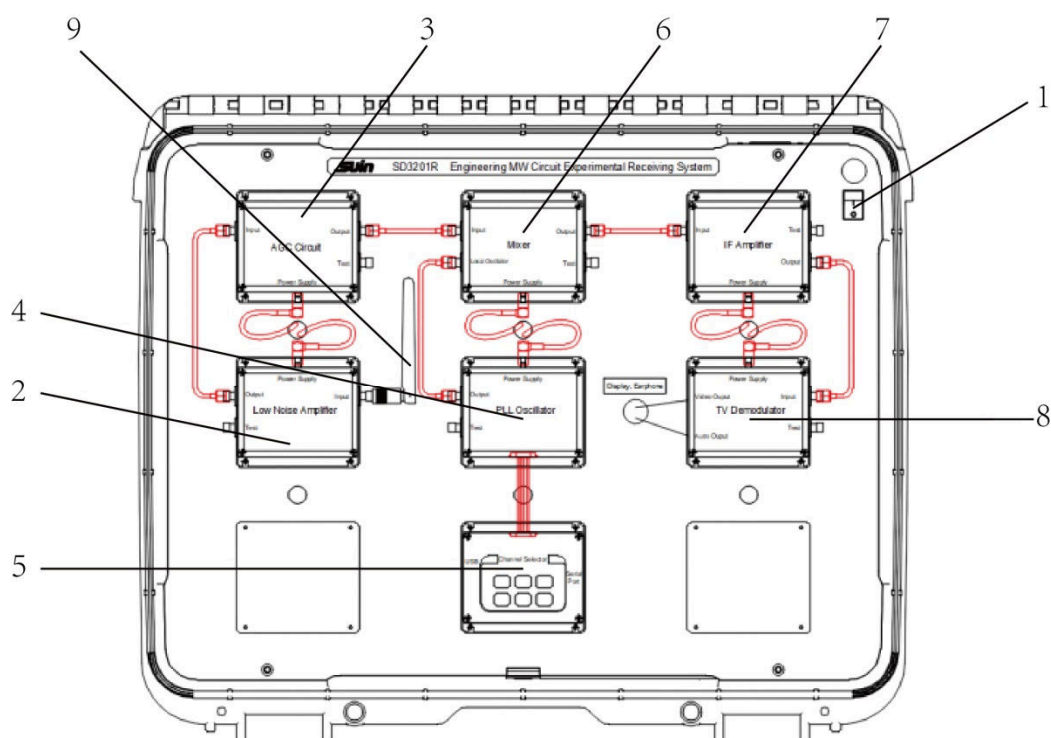

Fig.5 Connection Schematic Diagram of SD3201R Receiving System
a) Connection of SD3201R Receiving System(See Fig.5)